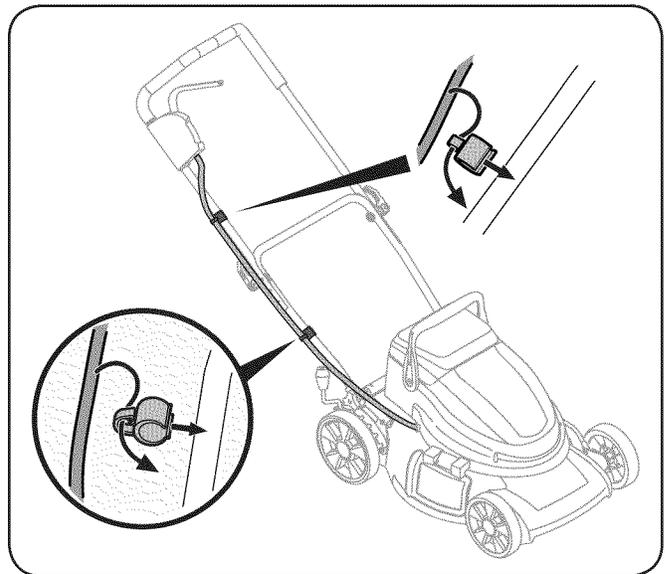

**Figure 3-4**
5. Tighten the clamps. See Fig. 3-4.